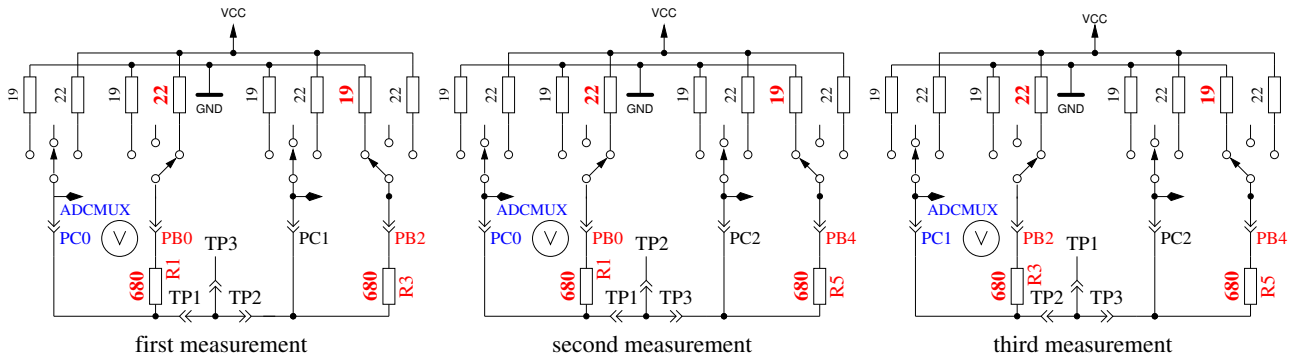

Figure 5.62. Comparison of 680Ω resistors
2. **Comparing of the  $680\Omega$  resistors.** In row 1 the cryptic text “+RL- 12 13 23” is shown. Meaning of this is as follows: The RL is the short form of Resistor Low meaning the  $680\Omega$  resistors. The 12 stand for: resistor at pin 1 is connected to VCC (+) and resistor at pin 2 is connected to GND (-). The result of this measurement is displayed in row 2 at the first place as difference to the theoretical value. In row 1 follows now a “13” which means, that the first connection of measurement 1 is still connected with  $680\Omega$  to VCC but that the resistor of pin 3 is connected to GND. The result is displayed in the middle place of row 2 as difference to the theoretical value. The last measurement of this test “23.” means that now the resistor at pin 2 is connected to VCC (+) and the resistor of pin 3 is connected to GND. The result of measurement is displayed at the last place of LCR row 2 as difference to the theoretical value. Please remember, that the resolution of the ADC is about 4.88mV! The measurement situation is also shown in figure 5.62. The theoretical value with respect to the internal resistance of the pins should be:  $\frac{5001 \cdot (19+680)}{(19+680+680+22)} = 2493$ .